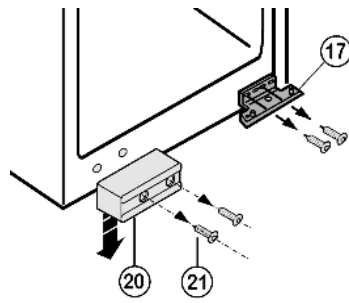

Fig. 13
- ▶ Detach the transit support of the door Fig. 13 (20).
- ▶ Unscrew the lower bearing bracket Fig. 13 (17).
- ▶ Screw the bottom turn hinge Fig. 13 (17) firmly into place on the opposite side, using the third and sixth oblong hole counted from the outside (with 4 Nm).
- ▶ Screw down transit support of the door Fig. 13 (20) at the opposite side.